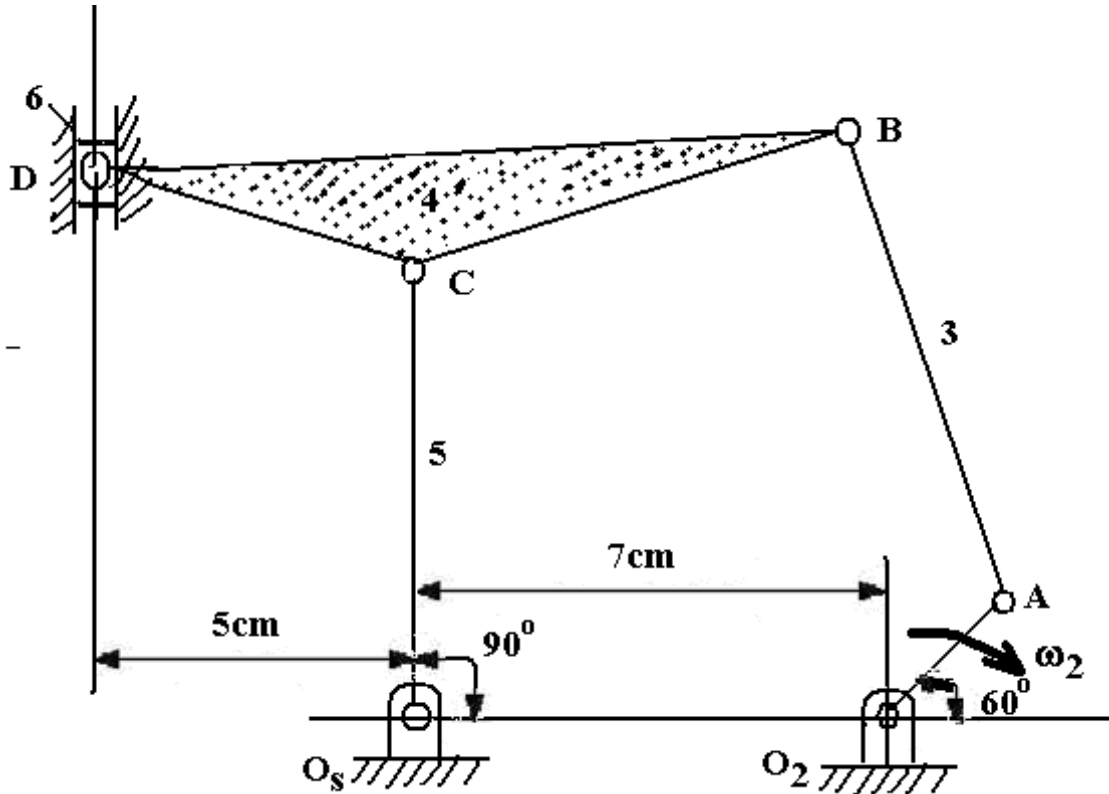

Figure 1
7. A Watt 'walking - beam' mechanism is shown in Figure 1. Determine the velocity and acceleration of the slider if the crank O_2A rotates with a speed of 1 cycle/sec in a clockwise direction. Given $O_2A = 2\text{ cm}$, $AB = 8.5\text{ cm}$, $BC = 7.5\text{ cm}$, $CD = 5.25\text{ cm}$, and $O_5C = 7\text{ cm}$. [16]